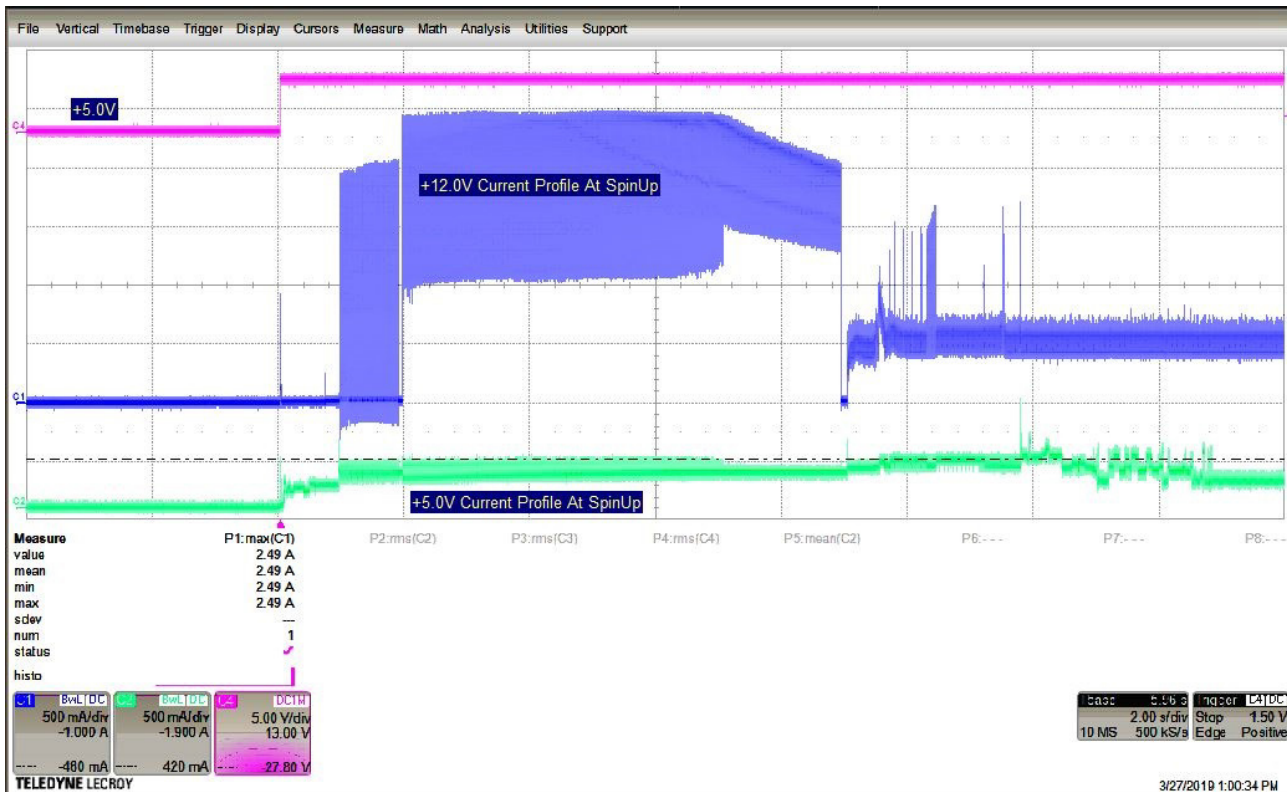
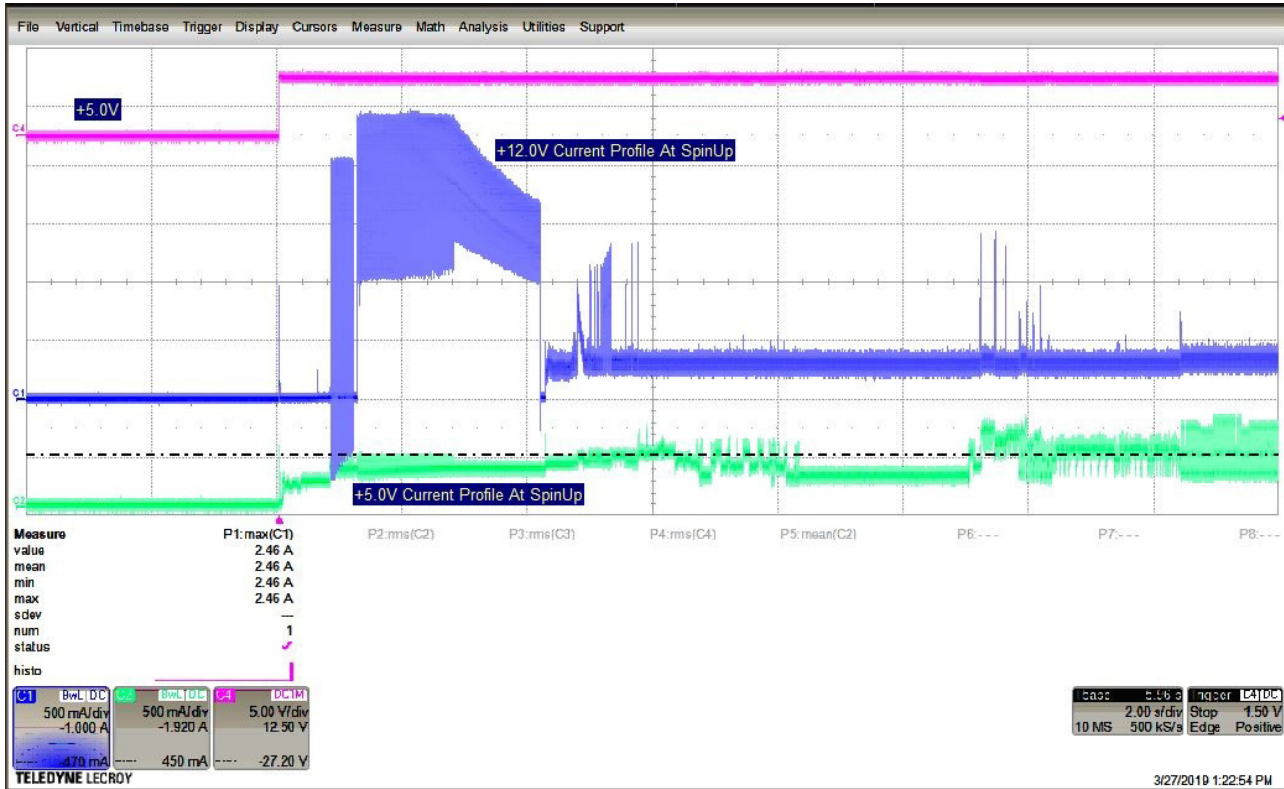

Figure 1. 8TB model current profiles.
Figure 4. 2TB model current profiles
- [3] See +12V current profile in Figure 1 through Figure 4 (for 8TB through 2TB models)